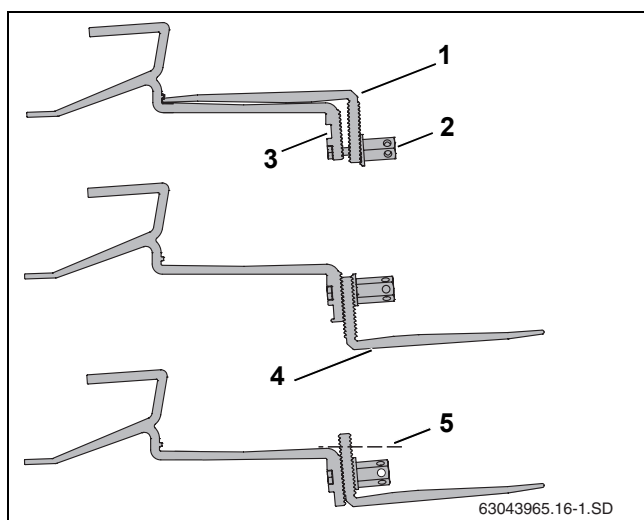

Fig. 15 Fastening roof hooks to rafter
- ▶ Loosen the long hexagon nut (Fig. 15, [2]).
- ▶ Insert the screw in the upper hole (Fig. 15, [3]).
- ▶ Loosely fasten the lower part of the roof hook (Fig. 15, [1]). Do not tighten the connection yet.